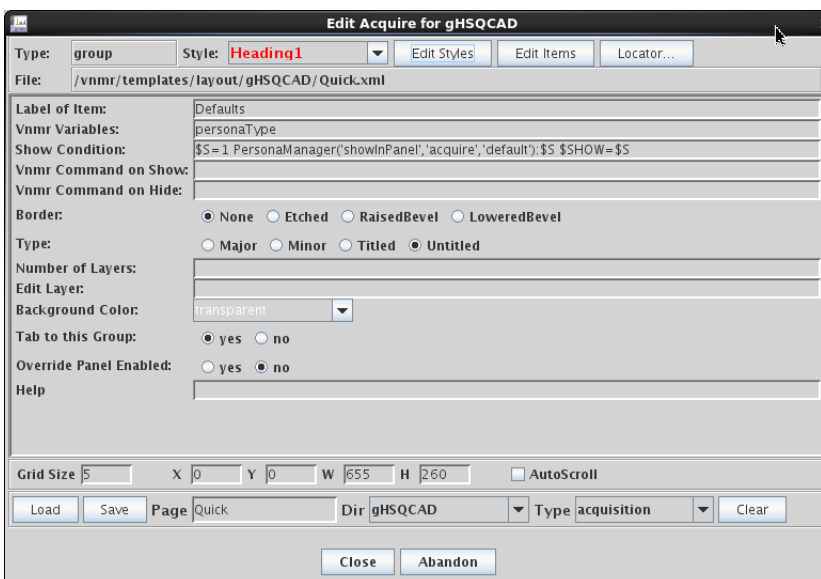

Figure 10 Panel Editor window
- 2 Select **Parameter Pages...** to display the Panel Editor window. See Figure 10.